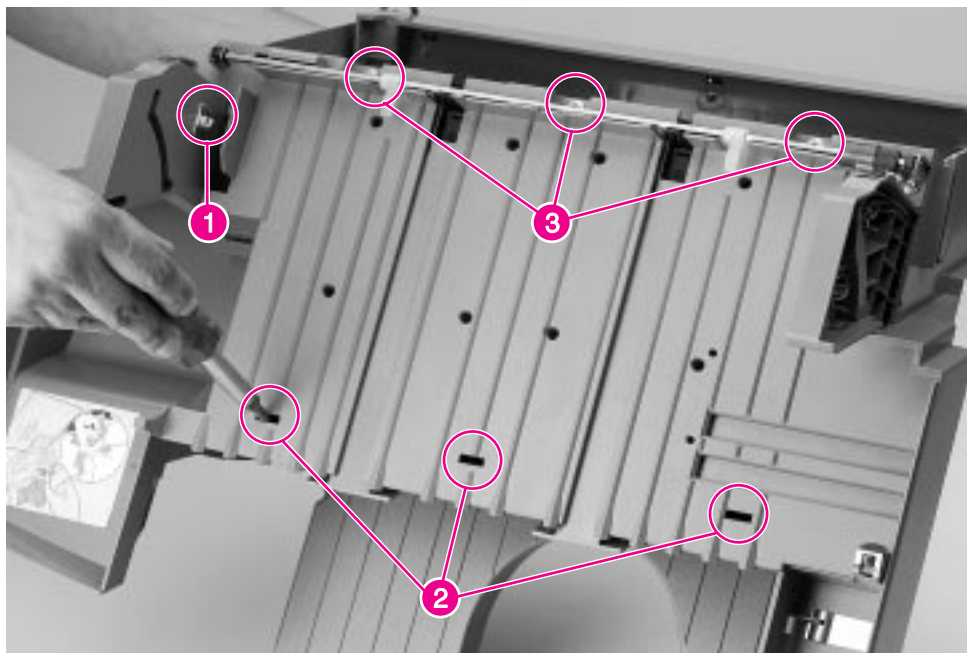

Figure 6-87 Stapler Bed Assembly
- 3 Remove the Stapler Unit Controller PCA (see figure 6-87 on page 256, callout 1).
- 7 Insert a flat-blade screwdriver into the top of the Stapler Bed Assembly and push gently to release the latches in the front of the stapler bed (see figure 6-87 on page 256, callout 2).
- 8 Remove 3 Torx screws that join the stapler bed with the rest of the unit (see figure 6-87 on page 256, callout 3).
- 3 Remove the Stapler Bed Assembly (see figure 6-87 on page 256).